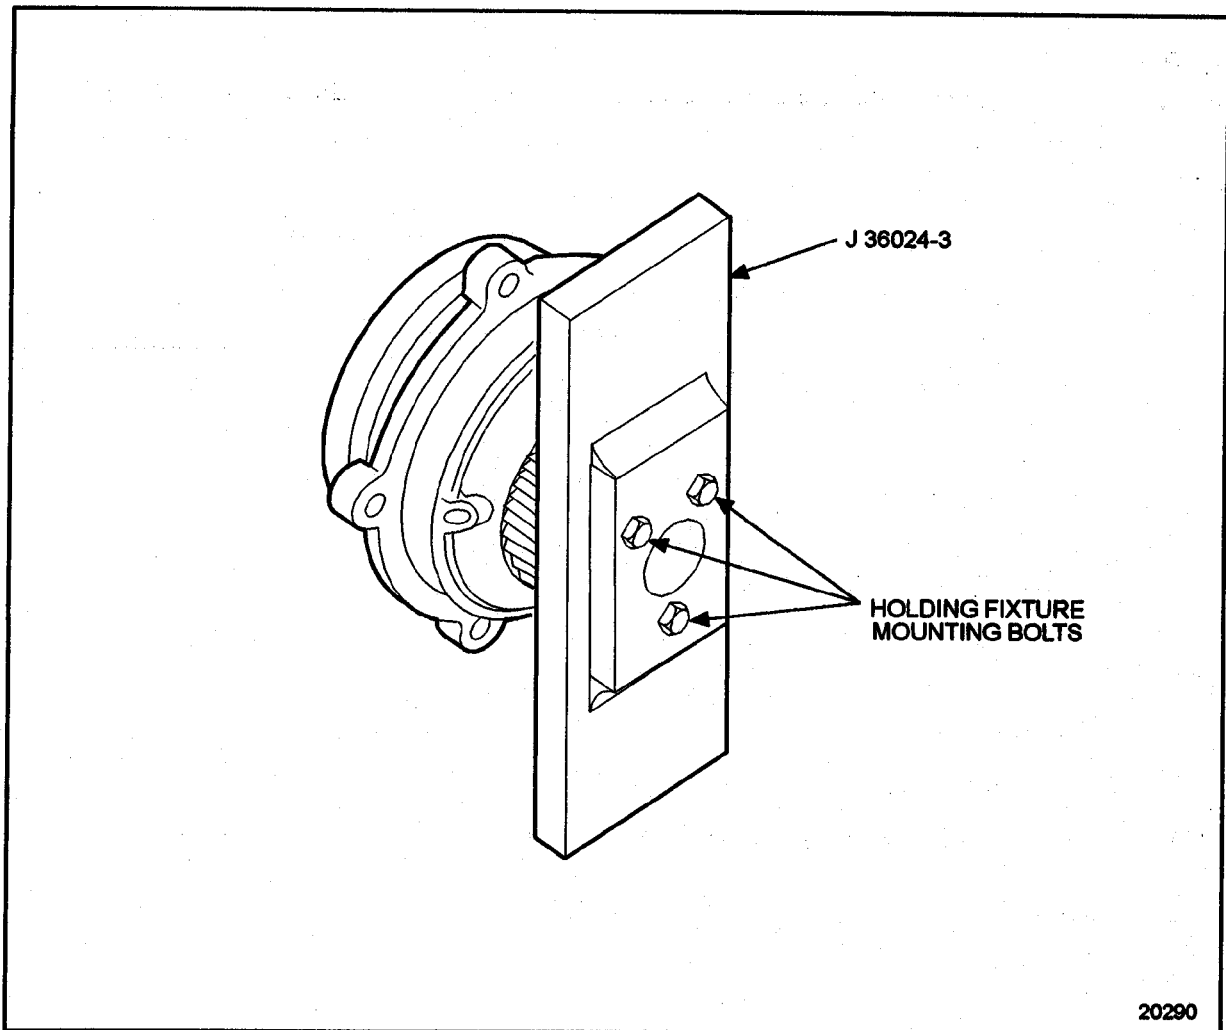

Figure 1-404 **Holding Fixture**
1. Attach the accessory drive gear to the holding fixture, J 36024-3 part of J 36024-C , using the three bolts provided. See Figure 1-404.